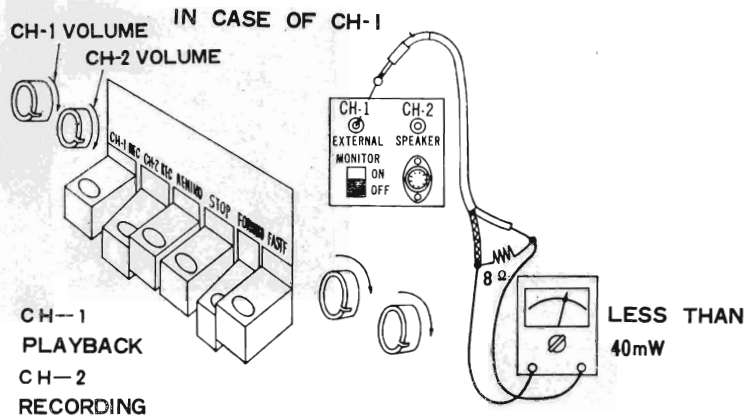

Fig. 21
- Connect 8Ω pure resistor to the No.1 channel speaker jack (EXTERNAL SPEAKER CH-1) in a reproducing condition as shown in Fig.21, then connect V. T. V. M. (vacuum tube voltmeter) to both ends of it. A high-frequency voltage leaking from the oscillating circuit is indicated in this condition. Turn the core of the TRAP COIL (L1) to produce minimum voltage (under 40mV).